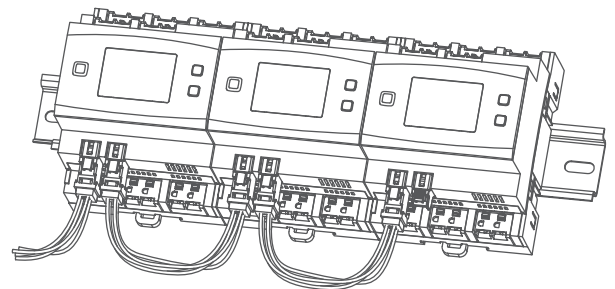

Figure 7
- Press and hold the system button for 4 seconds Fig. 7